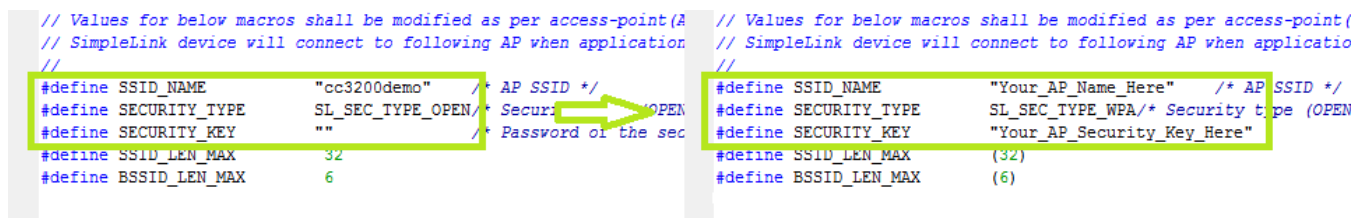

Figure 9. Editing *common.h*
10. Edit *common.h* to use the SSID, security type and security key of the Access Point being used. Edit the macros `SSID_NAME`, `SECURITY_TYPE` and `SECURITY_KEY` to contain the Access Point's information as shown in Figure 9. The security types supported for this demo are WPA/WPA2 and Open. For Open security, define `SECURITY_TYPE` as `SL_SEC_TYPE_OPEN`. For WPA and WPA2 security, define it as `SL_SEC_TYPE_WPA`. Alternatively, the SSID and security of the Access Point being used can be changed to match the default (SSID: `cc3200demo`, Security: Open). For the `SSID_NAME` and `SECURITY_KEY`, the quotation marks must remain as part of the macro definition.